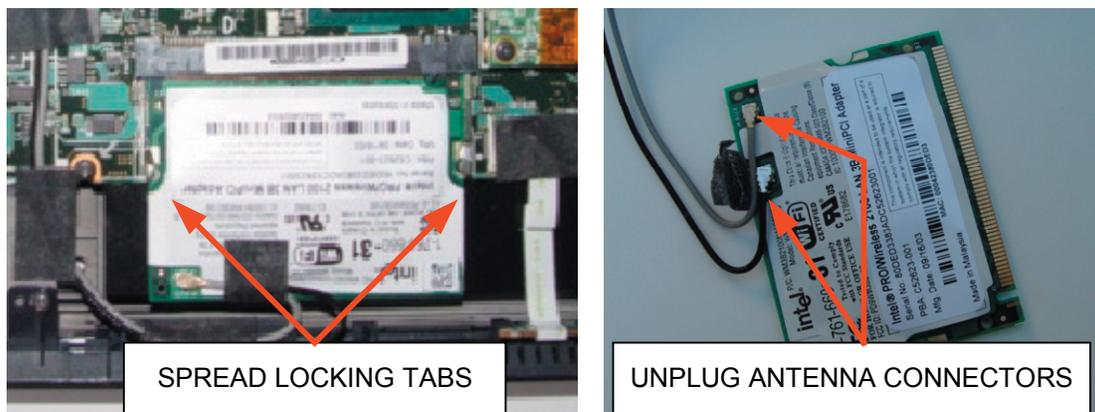

FIGURE 2-10 - WIRELESS LAN REMOVAL (step 2)
Step 2: Spread the locking tabs as shown in Figure 2-10. It is the same procedure as removing memory modules. Unplug the two antenna cables noting the location of the gray and black cables.